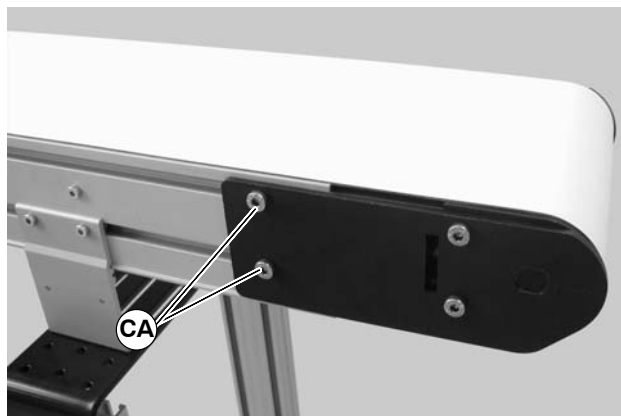

Figure 46
1. On the side of conveyor which the belt is tracking towards, loosen the head plate fastening screws (CA of Figure 46).
3. Re-tighten the head plate fastening screws (CA of Figure 46) with a 5 mm hex-key wrench to 146 in-lb (16.5 Nm).